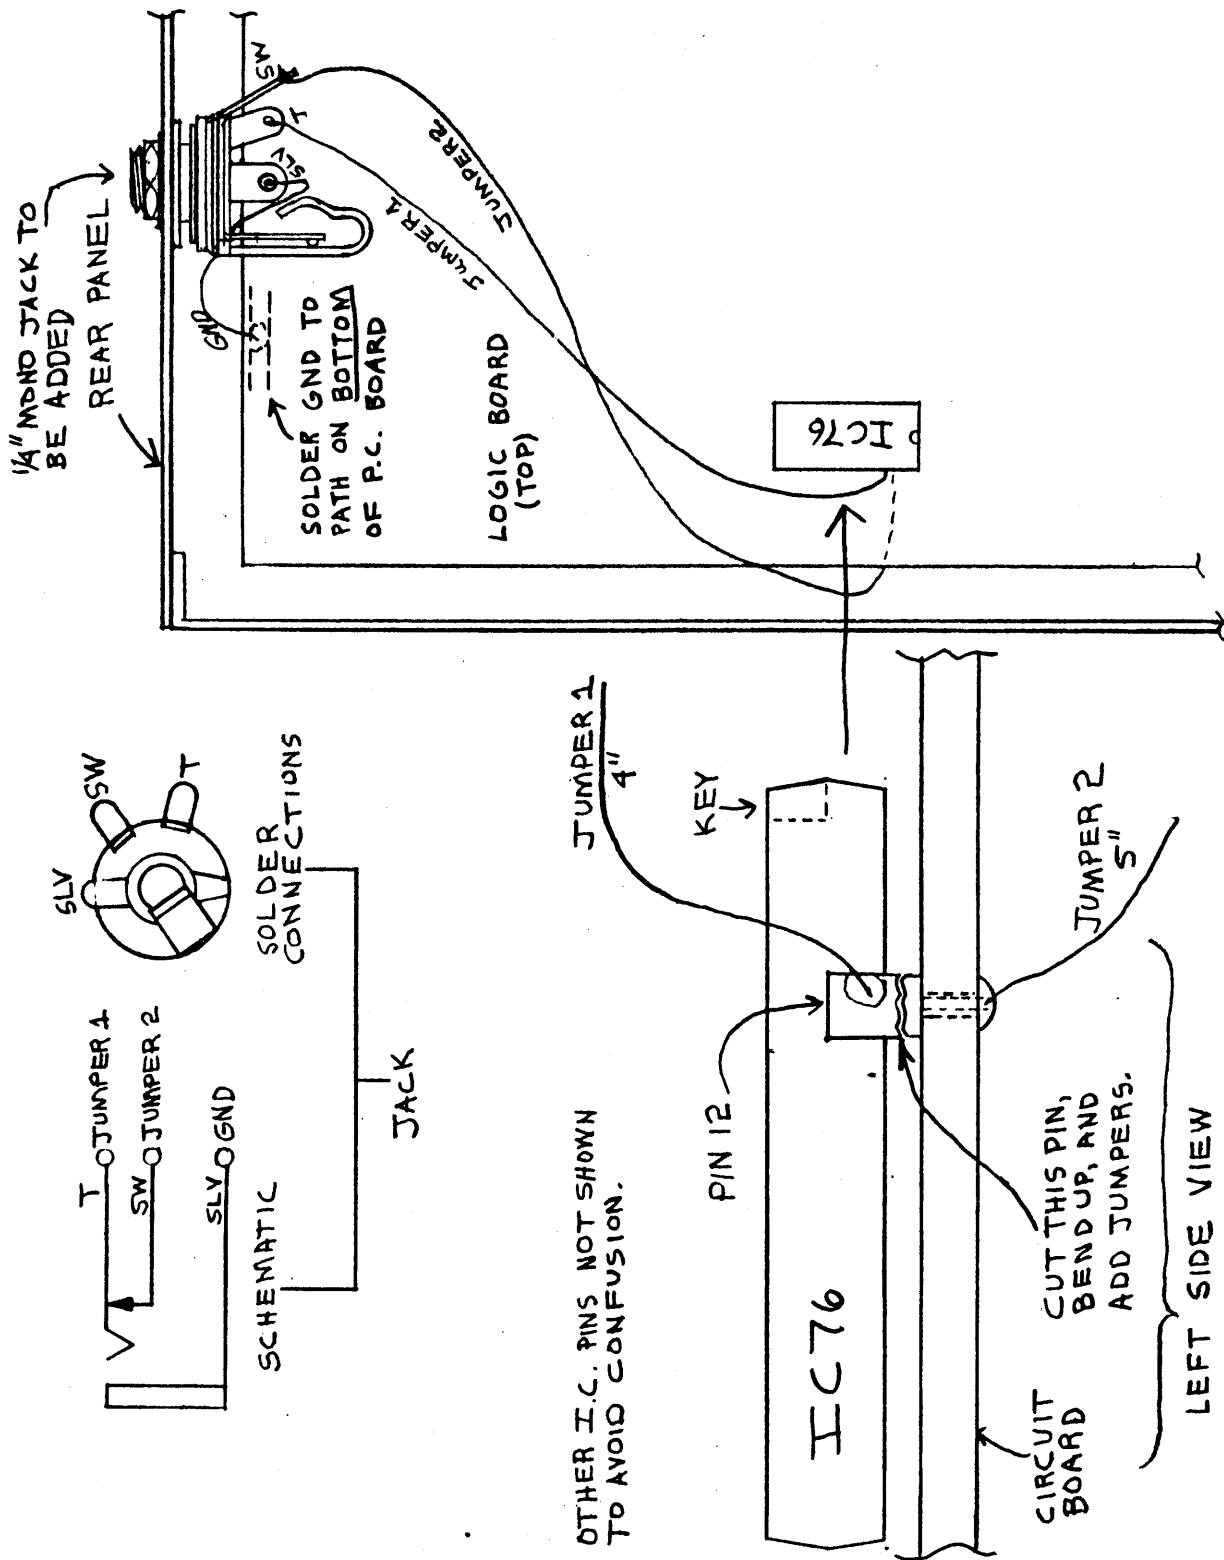

Figure 19. ARQ1000 TX DATA IN Connection
- () Locate the monaural phone jack and solder the other end of the 2" wire to the ground terminal (terminal "SLV" in Figure 19).